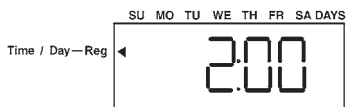

fig.15
2. Using the **↓↑** buttons, select the regeneration time (fig. 15).